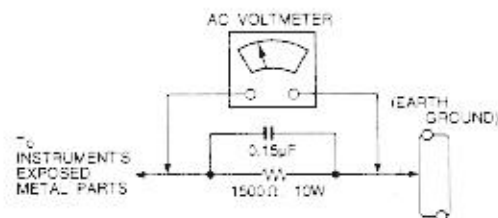

Fig.1
- 5-2 Connect a 1500 ohm, 10 watt resistor, paralleled by a 0.15 $\mu$ F capacitor between each exposed metallic part and a good earth ground (as shown in Fig.1).